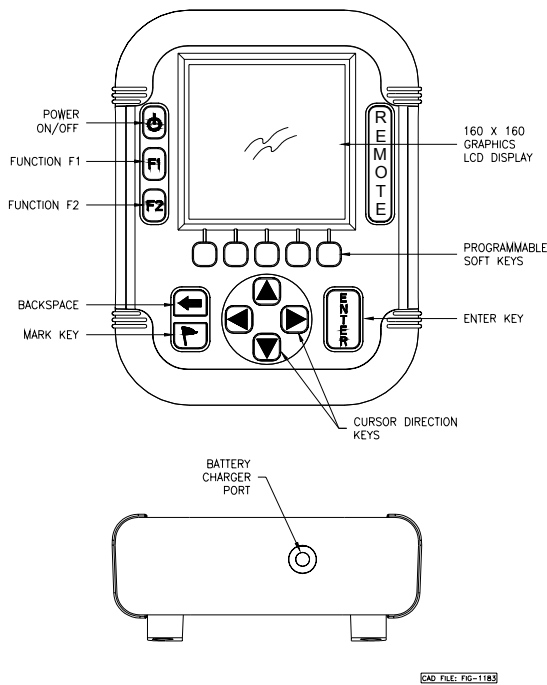

Figure 4. Remote Features
2.3 Remote Module Description. The Remote provides the data entry point for the user of the IRespond system. The LCD graphics display, the programmable soft keys and cursor keys allow the user to quickly enter data for transmittal to the base station. Figure 4 shows the Remote features. Table I below explains the keypad assignments.